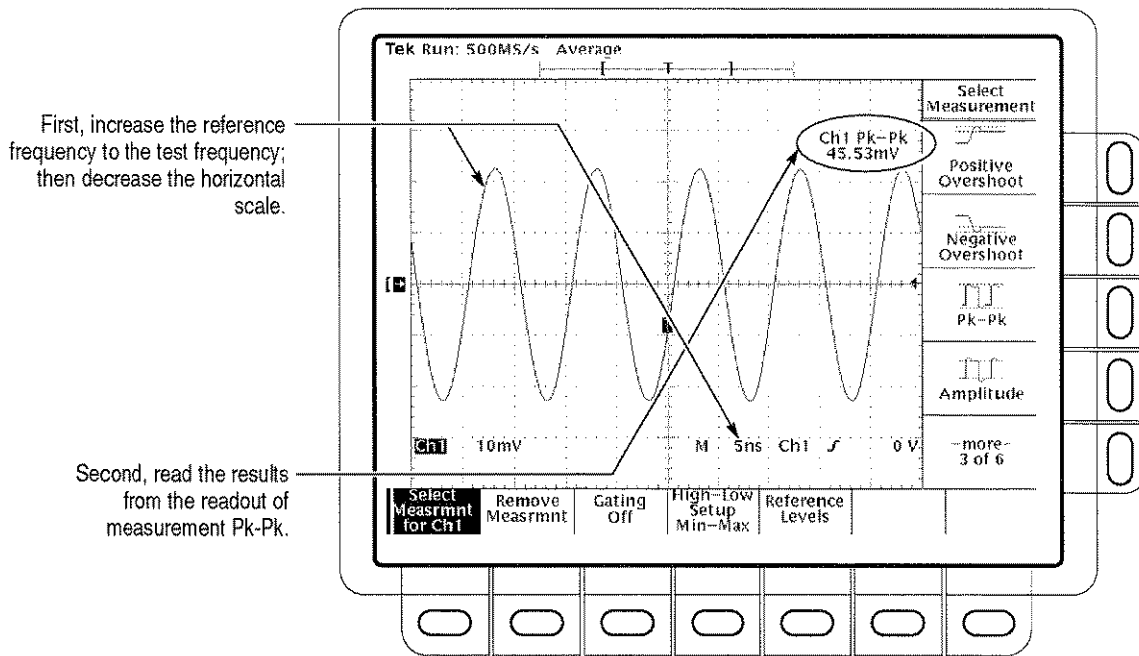

Figure B-4: Measuring analog bandwidth
13. Check that the **Pk-Pk** readout on screen (as shown in Figure B-4) is ≥ 42.5 mV.